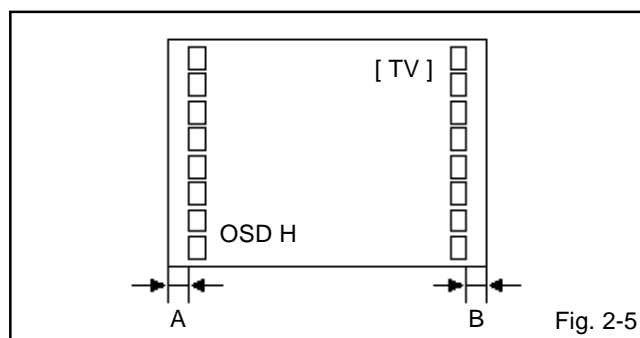

Fig. 2-5
5. Press the PLAY or STOP button on the remote control until the difference of A and B becomes minimum. (Refer to **Fig. 2-5**)